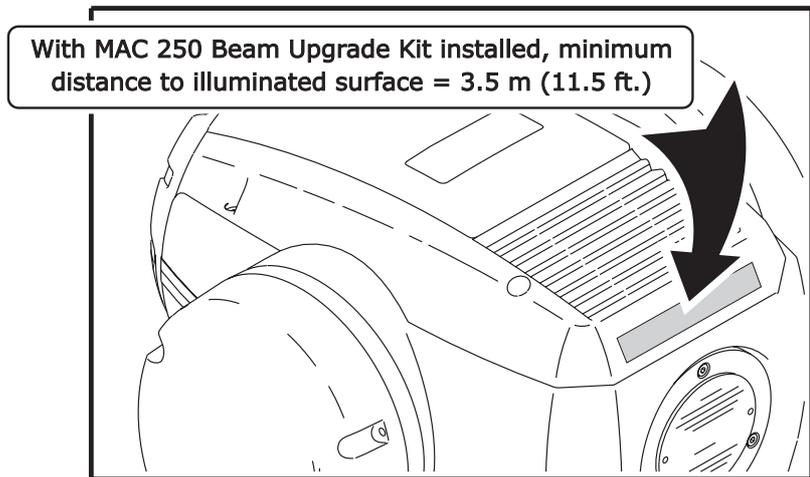

Figure 10
11. Stick the warning label supplied in the Kit onto the back of the head as shown in Figure 10. With the Beam Kit installed, this label replaces the warning printed on the standard MAC 250 Wash. **Do not illuminate any surface within 3.5 m (11 ft. 6 ins.) of the MAC 250 Beam.**